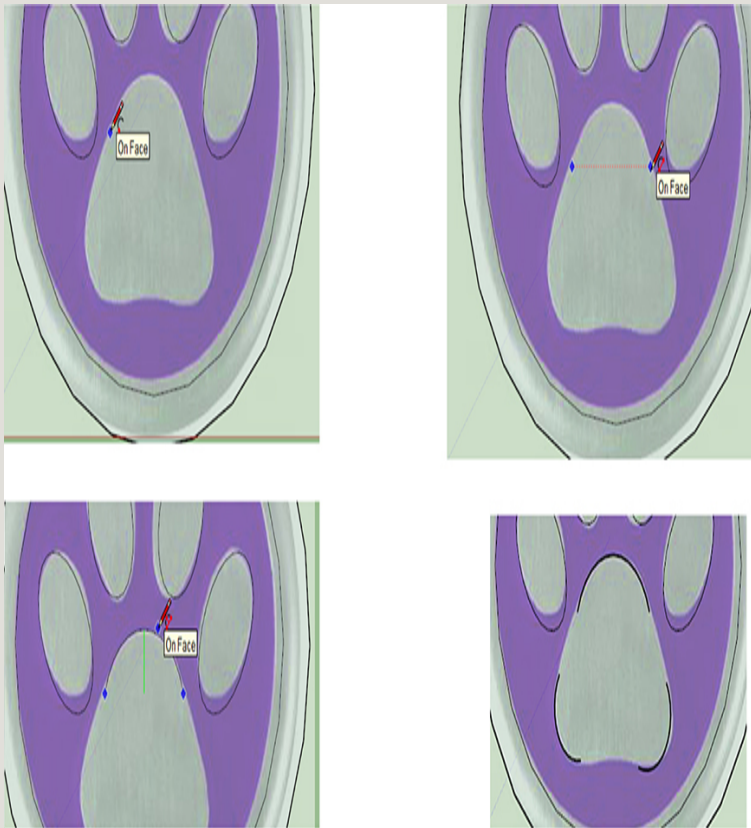

Figure 3-61 Trace the big pad's round corners with the Two Point Arc.
- d. Trace the big pad's round corners (Figure 3-61). Activate the Two Point Arc. Click the two endpoints (watch for the On Face inference), then drag the arc along the green axis (watch for the green axis color inference and the On Face inference). Click to set.